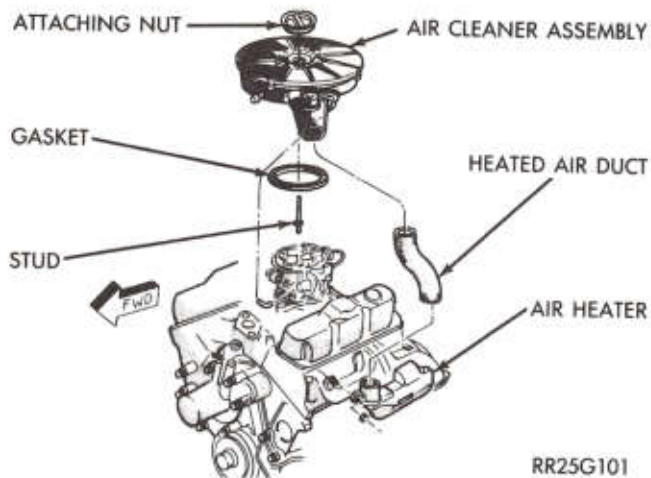

Fig. 2—Heated Air Inlet System
(1) Make sure all vacuum hoses (Fig. 2), the stove to air cleaner flexible connector, and the air cleaner duct are properly attached and are in good condition.
(2) With a cold engine and ambient temperature less than 50°F 5.9L 44°C (110°F) 3.9L and 5.2L, the heat control door (valve plate) in the snorkel should be in the **up** or **heat on position**.
(3) With the engine warmed up and running, check